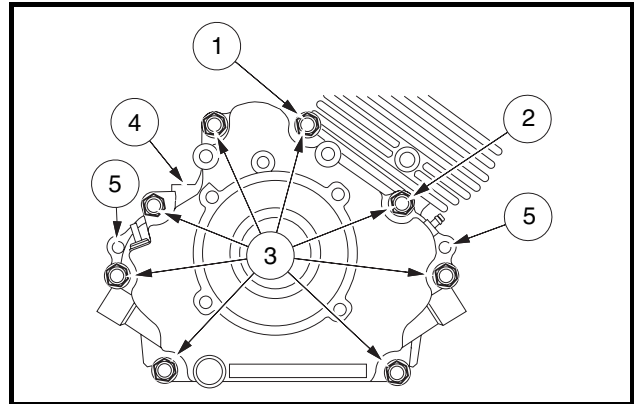

Figure 13-3 Crankcase Cover
2. Remove nuts and clamps at two-ended bolts (1 and 2) (**Figure 13-3, Page 13-5**).
3. Remove eight bolts (3) and remove the crankcase cover (4). **See following NOTE.**
NOTE: If the crankcase cover sticks, tap lightly with a plastic mallet on alternate sides near the dowel pins (5) (**Figure 13-3, Page 13-5**).